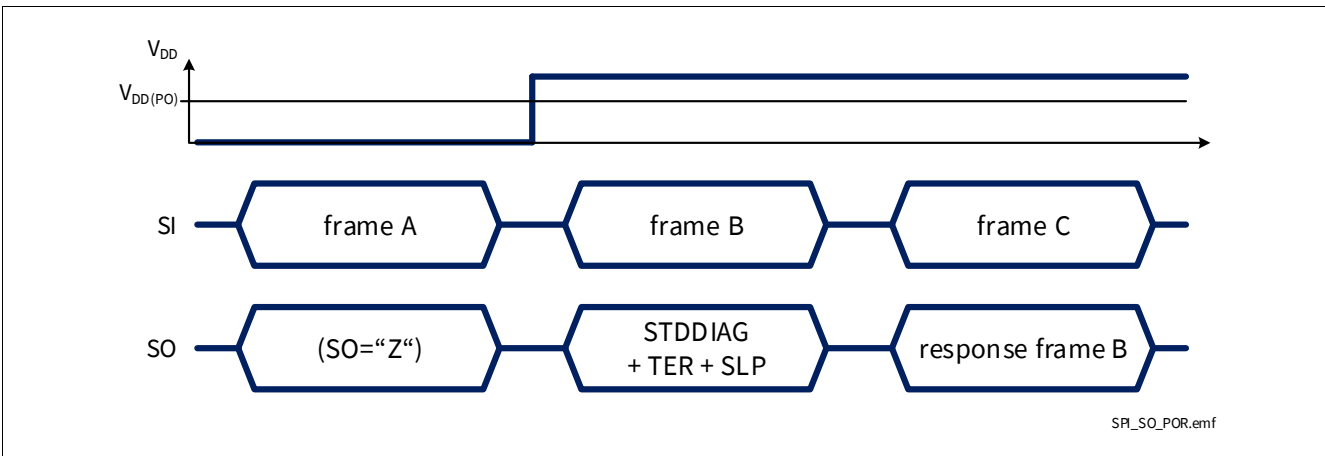

Figure 44 SPI response after coming out of Power-On reset at V_{DD}
- When BTS71220-4ESE digital supply comes out of Power-On reset condition, as shown in **Figure 44**